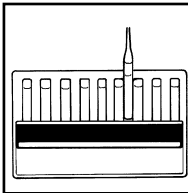

Figure 5
- b. Hold the high range comparator in a nearly horizontal position while standing directly beneath a bright source of light. Place the VACUette ampoule between the color standards moving it from left to right along the comparator until the best color match is found (fig 5).